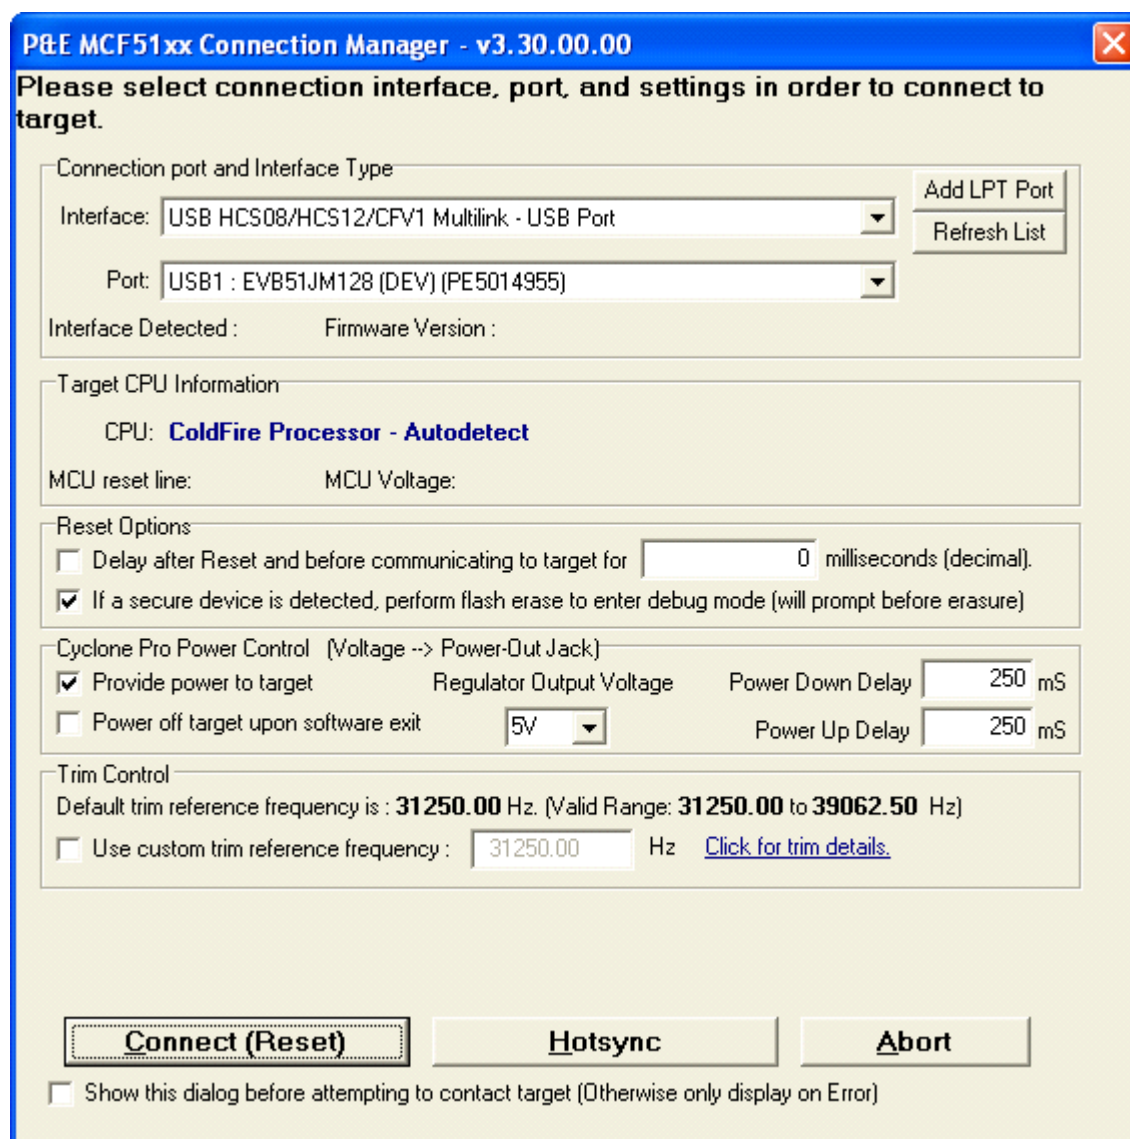

Figure A-5. Connection Manager
2. Click **Connect (Reset)** button to connect to hardware as shown in Figure A-5